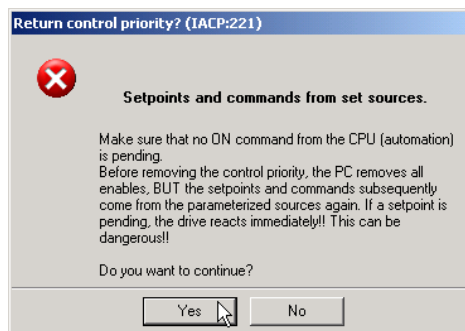

Fig. 4-15 Return control priority
13. Confirm the query **Return control priority?** with **Yes** (see Fig. 4-15).